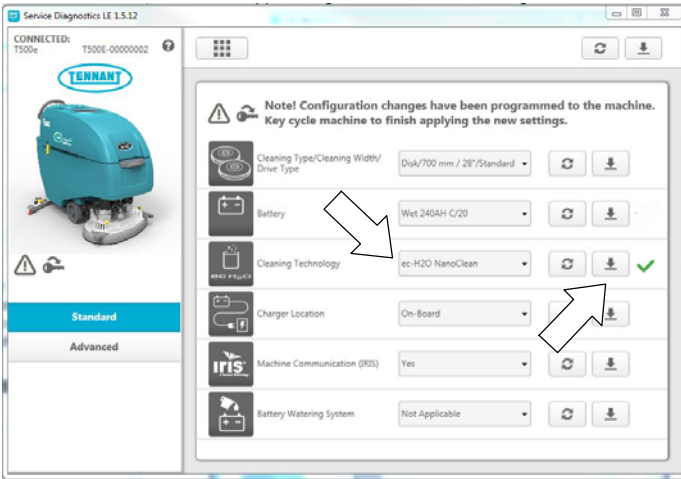

Fig. 42
- Change the Cleaning Technology to “**ec-H2O NanoClean**” from the pull-down menu (Figure 42). Then press the down arrow button to program the machine. A green check will appear next to the down arrow button when programmed.